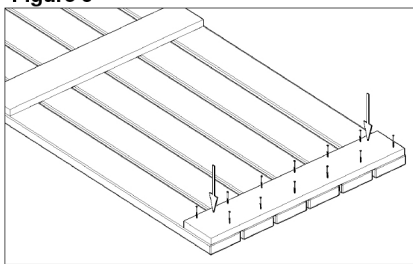

Figure 8
8. In order to keep the grid boards connected after cutting, install another crosspiece to the bench grid. (Figure 8)